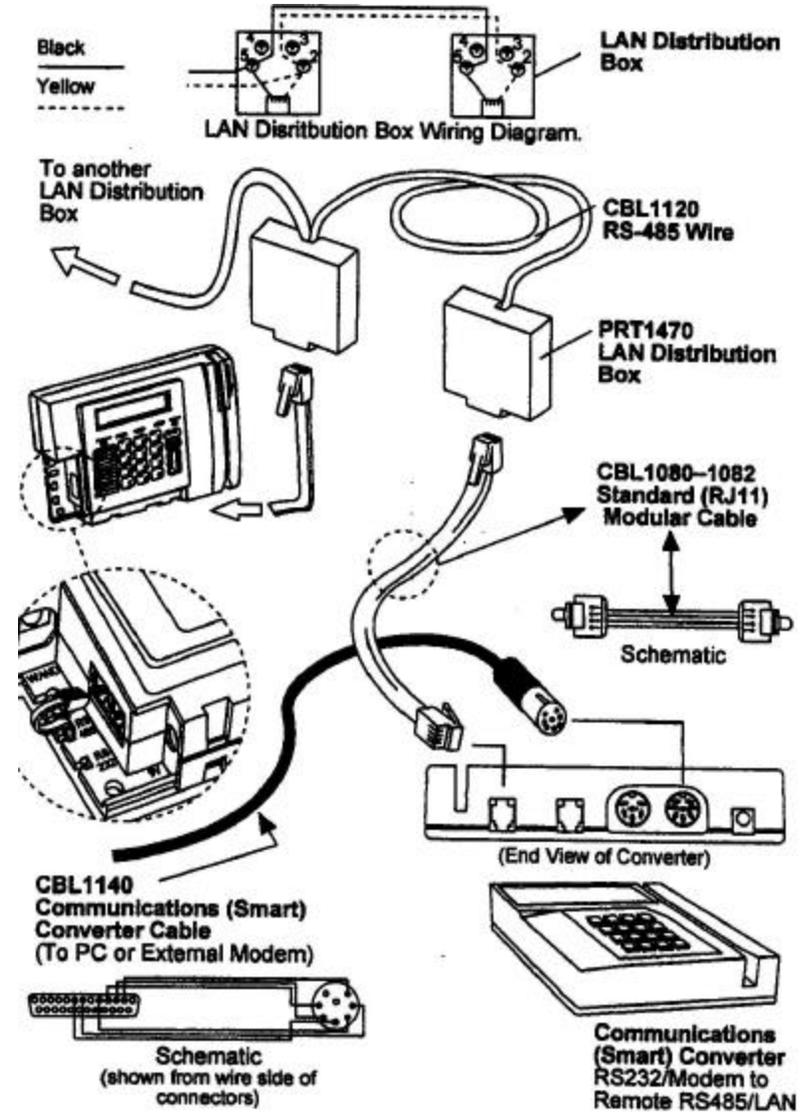

Figure 7: Remote LAN Communication
1. Install the terminal per the diagram shown in Figure 7.
Perform this step to ensure that the Smart Communications Converter (Figure 7) communicates at the same speed at the external modem. The converter and device attached to the converter's RS232 port (8-pin DIN) must be set to communicate at the same speed. The RS232 baud rate on the converter defaults to 1200 baud.